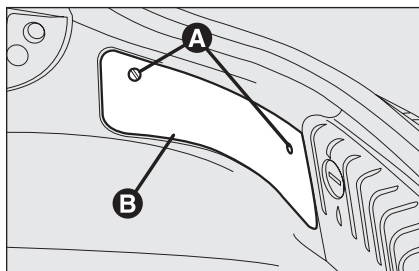

fig. 30
To change these bulbs, open the boot, operate devices **A-fig. 30** and remove the lid **B**.
- open the boot and the lid as described previously (see **fig. 30**);